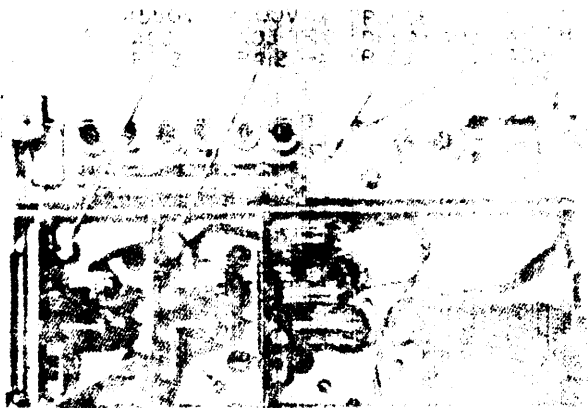

Figure 5-7. Location of Power Supply and Modulator Adjustments.
- e. Adjust potentiometer R412 (Figure 5-7) for -1000 ± 20 volts. Line voltage regulation (115 V $\pm 10\%$) should hold the -1000 V supply to within ± 5 V; ripple should be less than 7 mV, p-p. The -300 V supply should track the -1000 V supply to -300 ± 10 V. Line voltage regulation (115 V $\pm 10\%$) should hold the -300 V supply to within ± 5 V; ripple should be less than 10 mV, p-p.
- g. Adjust potentiometer R512 (Figure 5-7) for -1550 ± 20 V. Line voltage regulation (115 V $\pm 10\%$) should hold the -1550 V supply to within ± 5 V; ripple should be less than 15 mV, p-p.